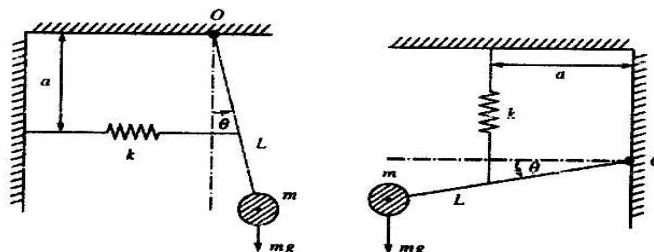

Fig 1(a)
- 1 a. Fig. 1(a) shows the same vibratory system in two different orientations. Establish equation of motion and hence find the expression for natural frequency in each case.